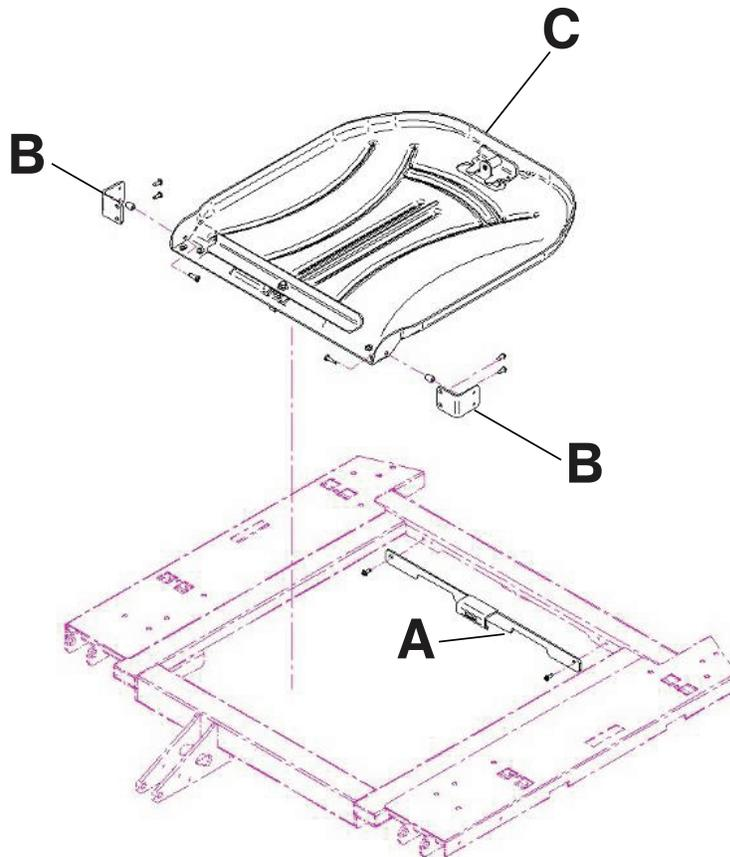

Figure 98: X-ray cassette holder
3. Turn the battery switch to the OFF (O) position.
5. Using a #2 Phillips screwdriver, install two screws to secure the fastener (A) to the top of the fowler frame (Figure 98 on page 104).
6. Using a #2 Phillips screwdriver, install four screws to secure the two cassette holder pivot brackets (B) into the lower fowler section (Figure 98 on page 104).
7. Using a #2 Phillips screwdriver, install two screws and two spacers to secure the X-ray cassette holder (C) into the cassette holder pivot brackets (B) (Figure 98 on page 104).